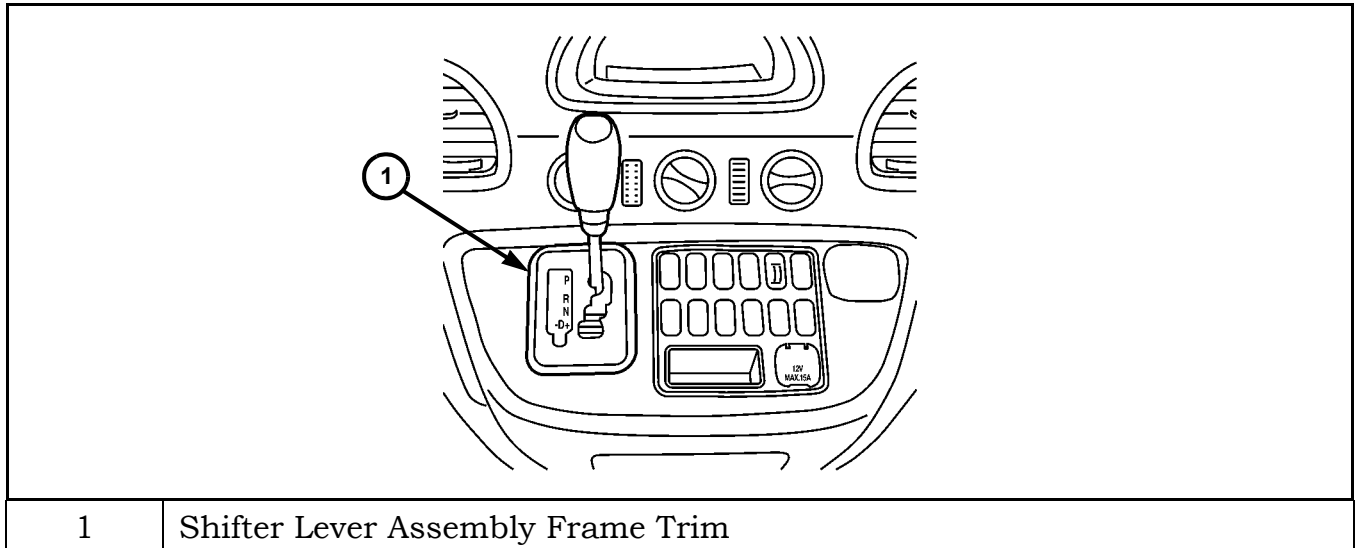

Figure 2 Shifter Lever Assembly Frame Trim
2. Remove the shifter lever assembly frame trim (Figure 2) using a trim stick C-4755 or equivalent.